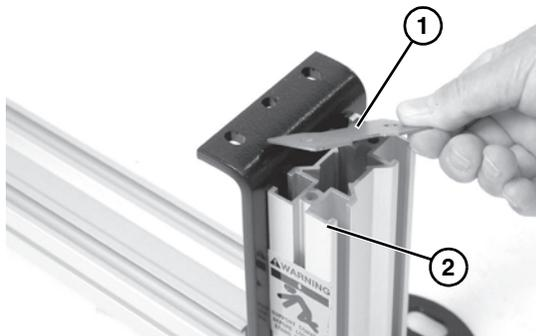

Figure 9
- Align end cap (**Figure 9, item 1**) with top of leg assembly (**Figure 9, item 2**).